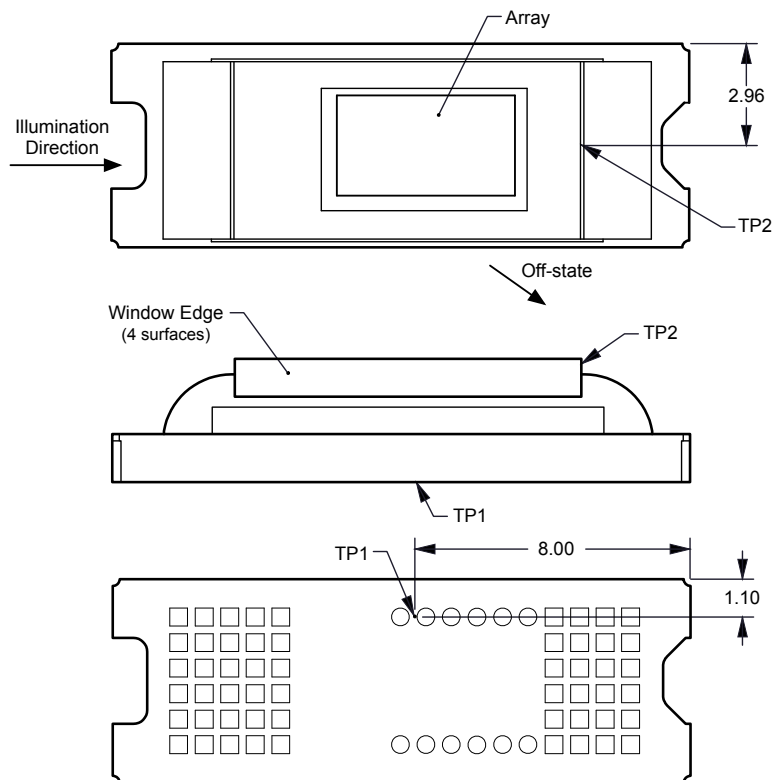

图 7-1. DMD Thermal Test Points
Micromirror array temperature cannot be measured directly, therefore it must be computed analytically from measurement points on the outside of the package, the package thermal resistance, the electrical power, and the illumination heat load. The relationship between array temperature and the reference ceramic temperature (thermal test point TP1 in 图 7-1) is provided by the following equations:
- $T_{\text{CERAMIC}}$  = Measured ceramic temperature ( $^{\circ}\text{C}$ ), TP1 location in 图 7-1
- $Q_{\text{ARRAY}}$  = Total (electrical + absorbed) DMD power on array (W)
- $Q_{\text{ELECTRICAL}}$  = Nominal DMD electrical power dissipation (W)